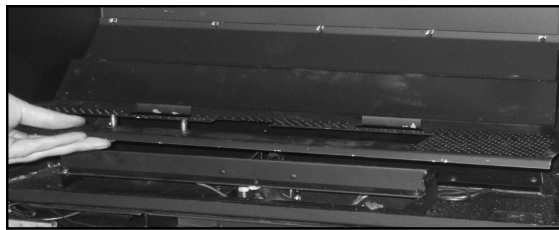

Figure 56: Burner Tray Installation.
2. Secure the burner tray to the firebox by installing one screw on each side of the tray as shown in Figure 56.